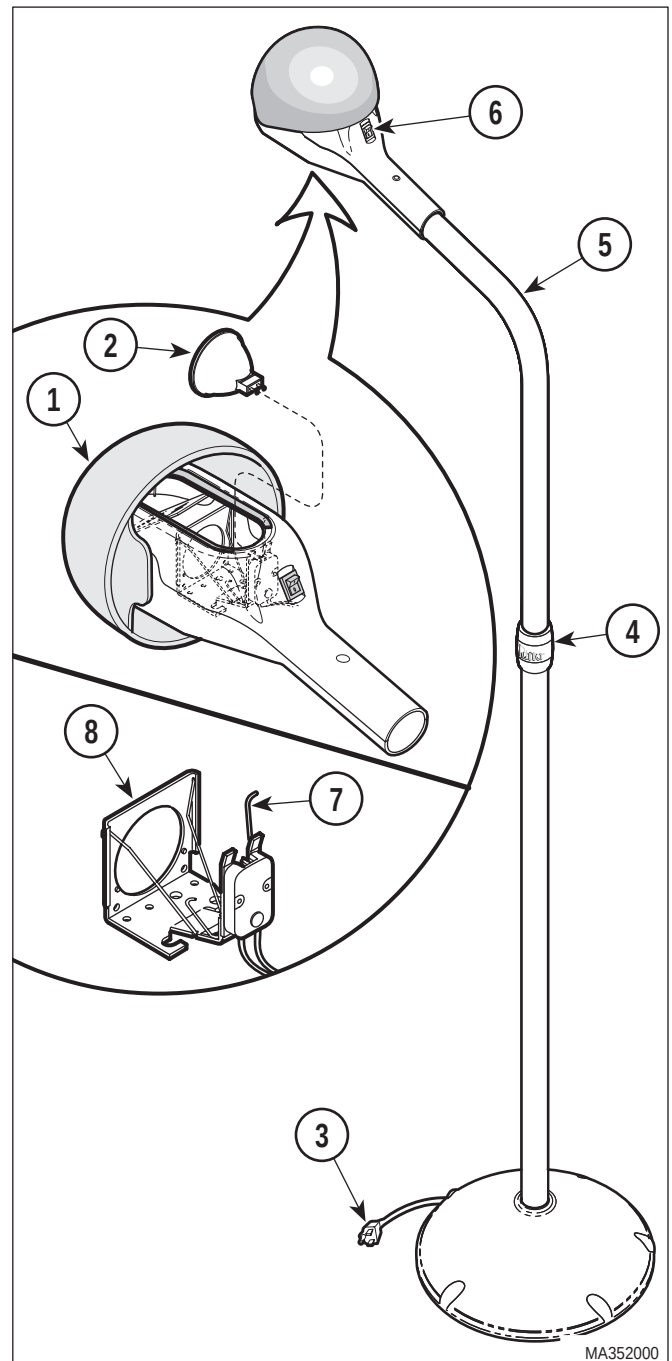

FIGURE 1
Model **159-002** contains a base with glides (see Figure 1).
- (2) Rotate the hood (1, Figure 1) of the light forward and install the bulb (2) by sliding it into the bulb bracket. Do not smudge the front glass cover of the bulb during installation.
- (3) Rotate the hood (1) back until it locks in place in the normal operating position.
- (1) Connect the three-pronged, grounded plug (3, Figure 1) on the lamp's power cord into a matching three-pronged, grounded, 115 VAC receptacle.
- (1) Turn the ON / OFF switch (6, Figure 1) to OFF.
- (1) Turn the ON / OFF switch (6, Figure 1) to the OFF position, unplug the light's power cord and allow the light to cool before cleaning.
- (2) Clean **external** surfaces **only** using a mild soap solution and a soft cloth to prevent scratching the surfaces. Insure the cloth is not saturated with the soap and water solution but just damp.
- (3) Dry thoroughly with a soft cloth before plugging the unit back into an electrical outlet.